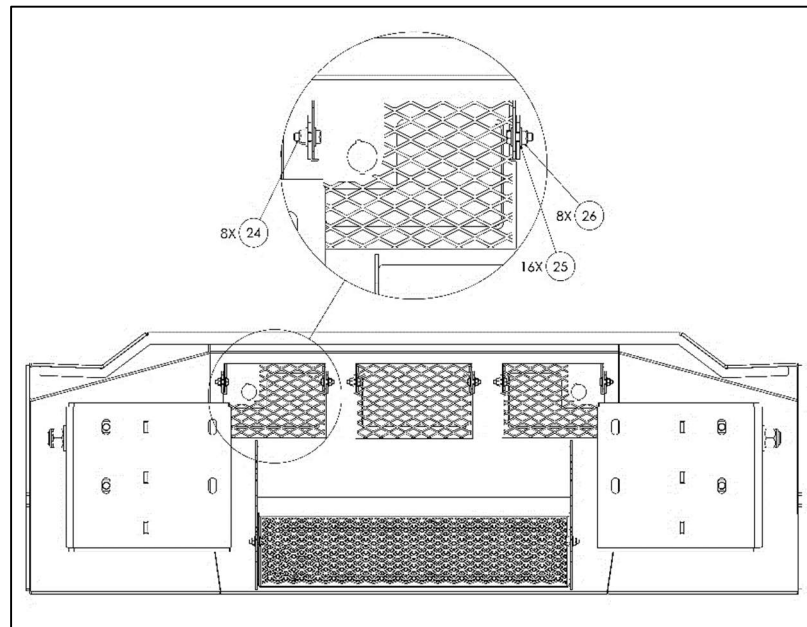

Figure 7: Mesh assembly
- Using the provided hardware (24, 25 & 26), bolt the three upper screens (8, 9, & 10) and lower screen (7) into the center section as shown in Figure 7.